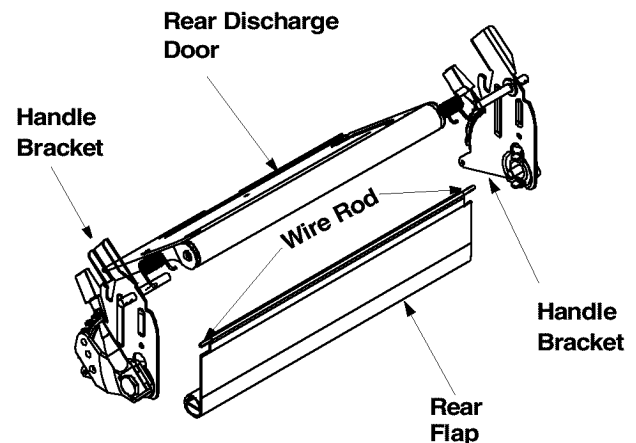

Figure 15
- To remove rear flap, cut off the flat end of the wire rod which secures it to the deck. See Figure 15 .